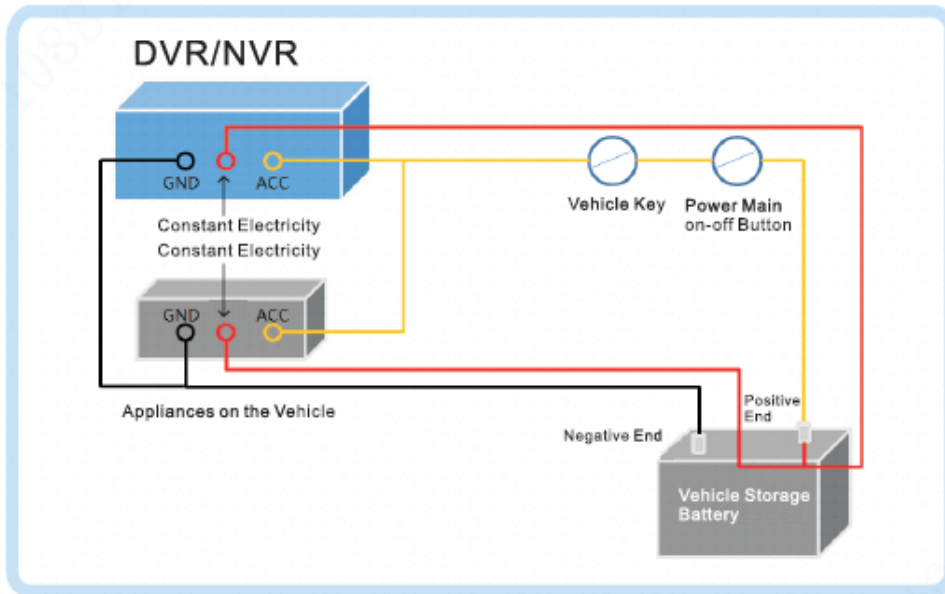
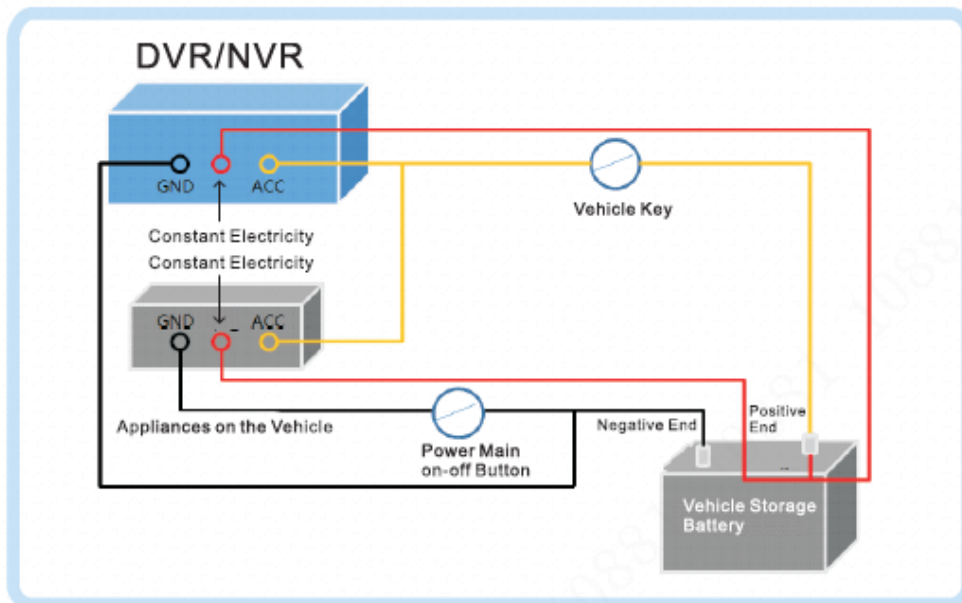

Figure 1-2
Figure 1-3
- Step 4 Connect power cable according to vehicle power main on-off mode. See Figure 1-2 and Figure 1-3.